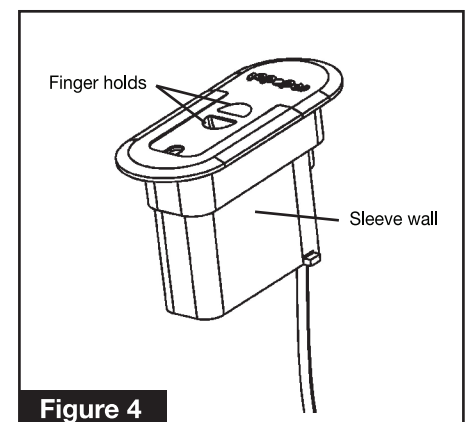
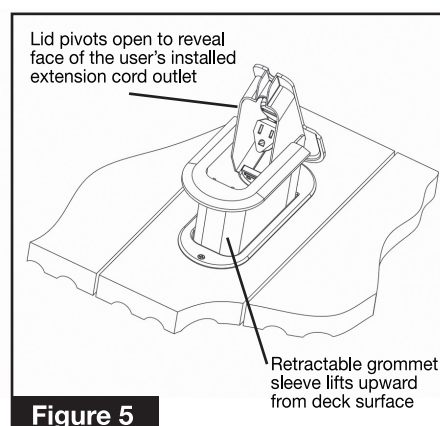
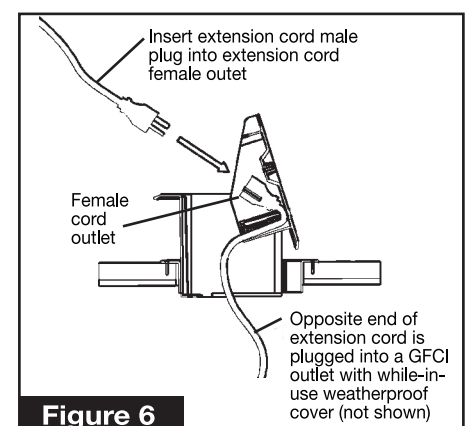

Figure 4
Figure 5
Figure 6
8. To use, pull up lid using finger holds (Figure 4) and pivot open (Figure 5). Plug the desired electrical equipment into the extension cord outlet attached to the underside of the lid (Figure 6). For permanent use, the electrical equipment cord needs to be rated for outdoor use.